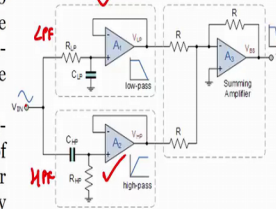

Figure 18
- The transformation of this filter characteristic can be easily implemented using a single low pass and high pass filter circuits isolated from each other by non-inverting voltage follower, ($A_v = 1$). The output from these two filter circuits is then summed using a third operational amplifier connected as a voltage summer (adder) as shown in Figure 18